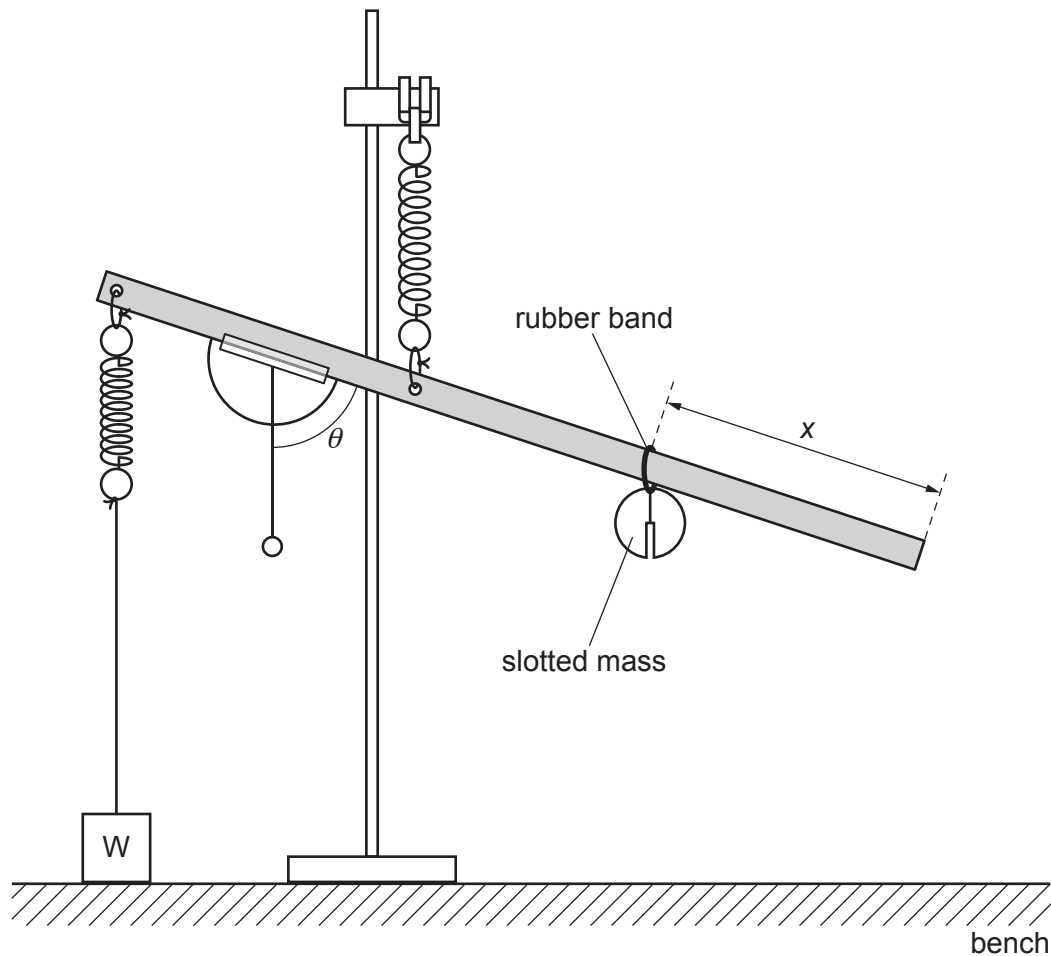

Fig. 1.2
- Slide the rubber band and slotted mass onto the rule so that the rubber band is approximately 30 cm from the end of the rule. The rule will tilt down, as shown in Fig. 1.2.
- The distance between the rubber band and the end of the rule is x, as shown in Fig. 1.2.
- The angle indicated by the plumb-line on the protractor scale is θ , as shown in Fig. 1.2.